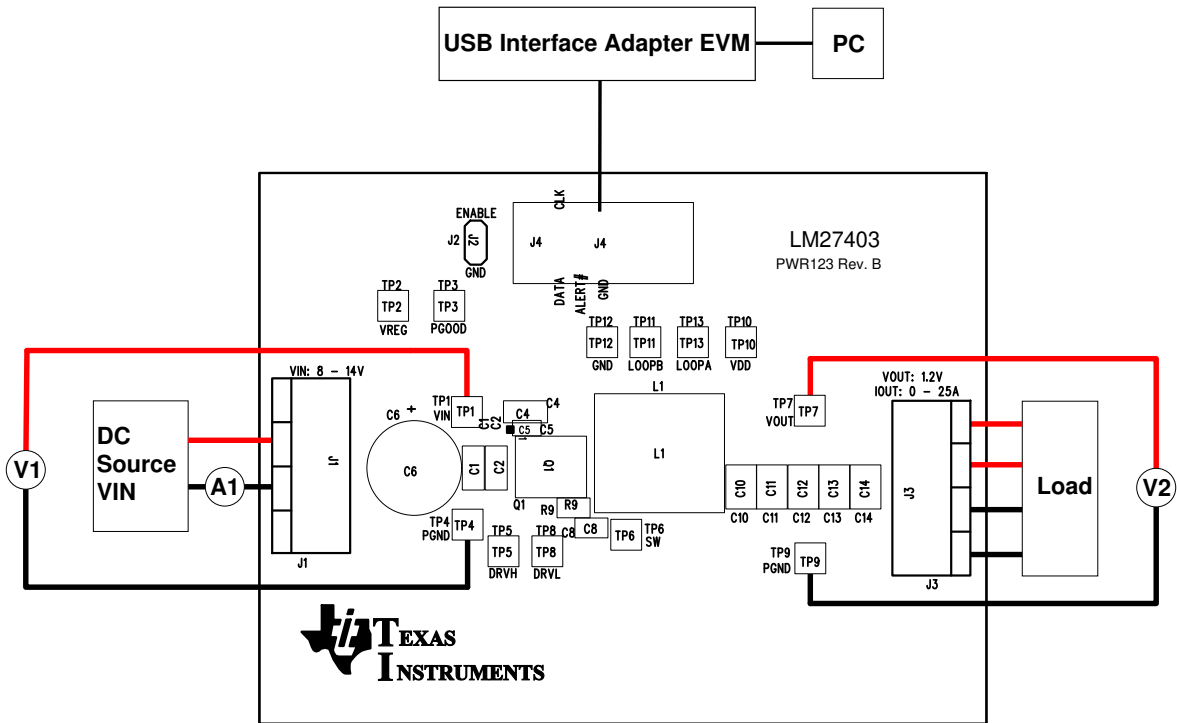

Figure 4-3. TPS53819AEMV-123 Recommended Test Setup
Figure 4-3 is the recommended test set up to evaluate the TPS53819AEVM-123. Working at an ESD workstation, make sure that any wrist straps, bootstraps or mats are connected referencing the user to earth ground before power is applied to the EVM.
1. Prior to connecting the DC input source V_{IN} , it is advisable to limit the source current from V_{IN} to 10-A maximum. Make sure V_{IN} is initially set to 0 V and connected to J1 as shown in Figure 4-3.
2. Apply the input voltage to the EVM. Refer to Figure 4-3 for connections and test setup.
1. Set up the EVM as described in Section 4 and Figure 4-3.
2. Set up EVM as described in Section 4 and Figure 4-3.